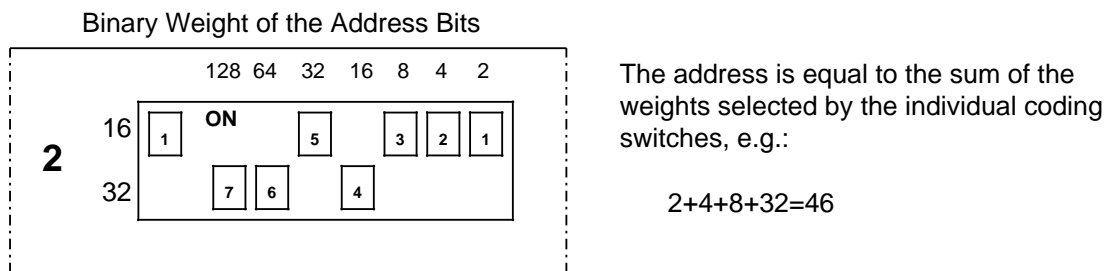

Figure 5-4. Setting a DIP Switch
- Set the address switches on the DIP switch for slot number 2 as shown in Figure 5-4.